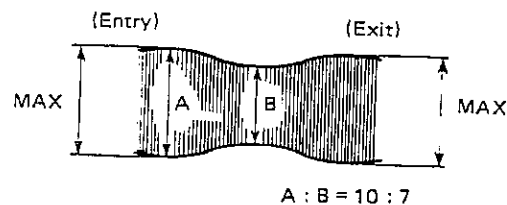

Figure 31
5. Adjust so that when the tracking control is moved from its normal position (the tracking control is moved and A of the RF waveform begins to decline) the ratio between A and B in figure 31 is better than A(10): B(7).